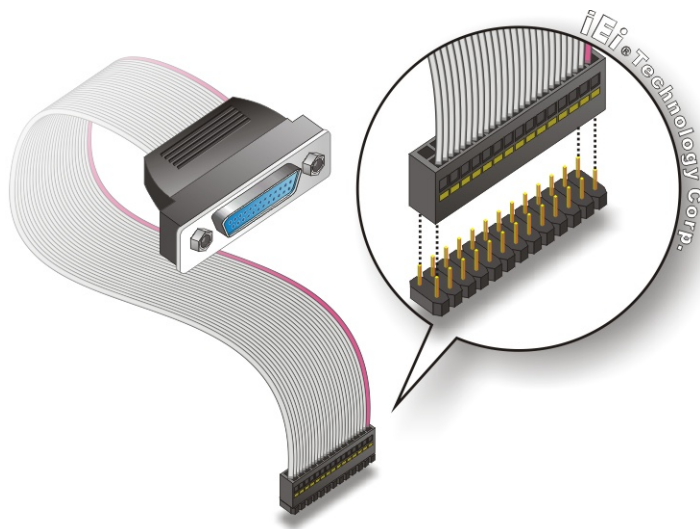

Figure 4-16: LPT Cable Connection
- Step 2: Align the connectors.** Correctly align pin 1 on the cable connector with pin 1 on the NANO-945GSE2 LPT box-header connector. See **Figure 4-16**.
Step 3: Insert the cable connectors Once the cable connector is properly aligned with the 26-pin box-header connector on the NANO-945GSE2, connect the cable connector to the on-board connector. See **Figure 4-16**.